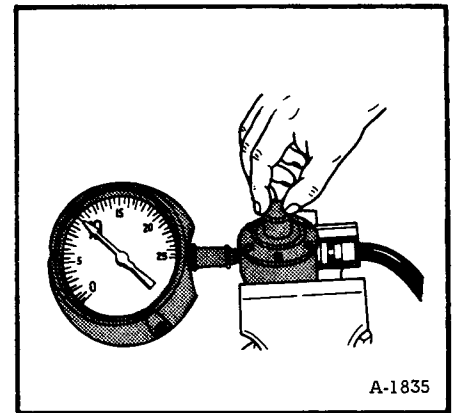

Fig. 76 Checking Working Pressure
- (1) Place the assembly in a vise or suitable clamp. Secure an air hose which will supply approximately 75PSI to the inlet connection (Fig. 76).
- (2) Connect a 0 to 30 or a 0 to 50 PSI pressure gauge to the outlet.
- (3) Back off the vapor adjusting screw until only one or two threads are holding the screw in the cover. Apply air pressure to the unit.
- (4) Turn the pressure adjusting screw in slowly until a reading not over 12 PSI shows on the gauge.